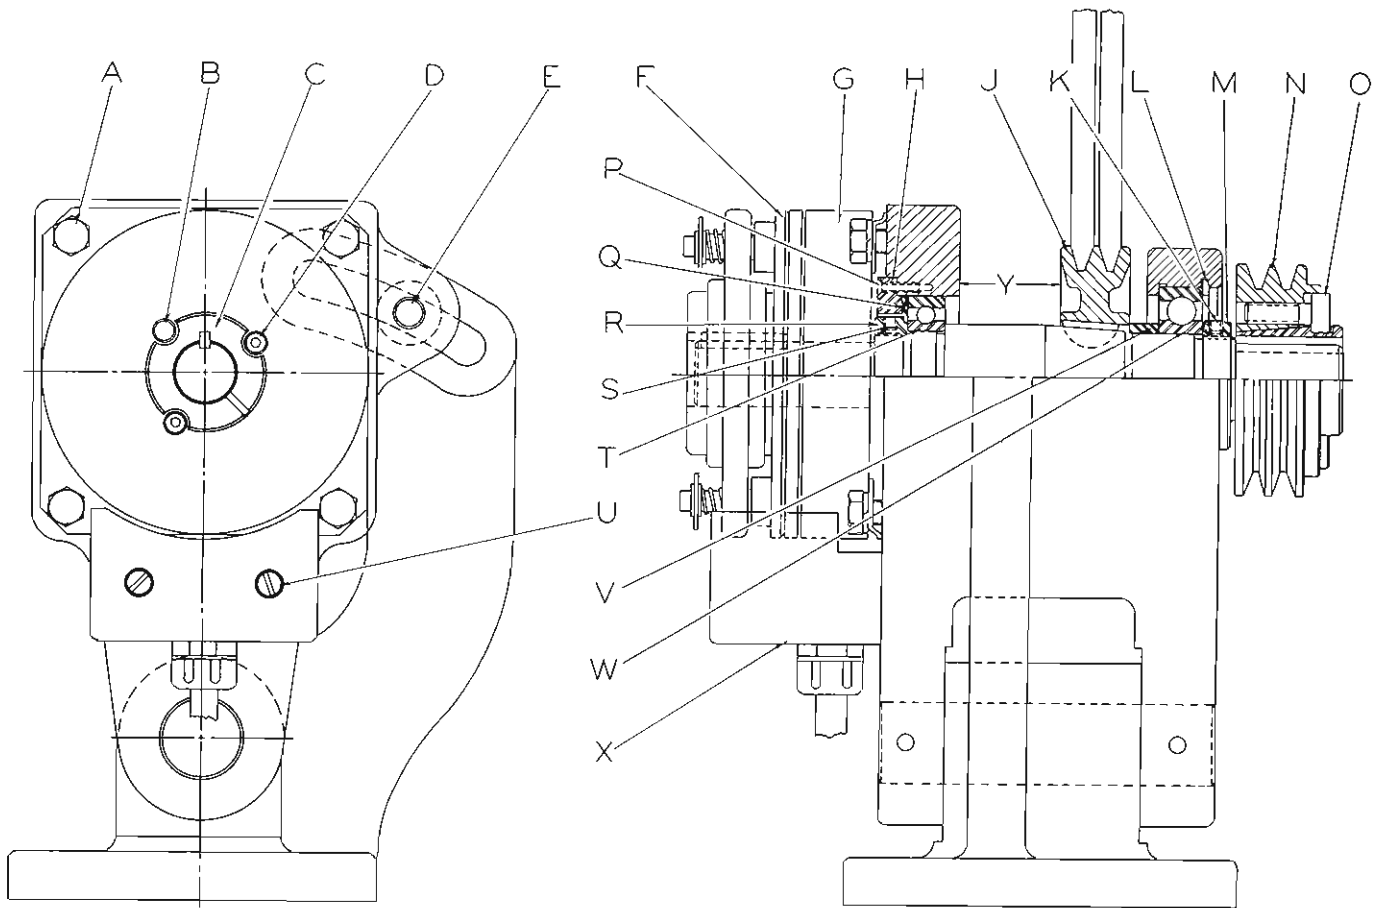

Figure 9.7 - Spindle Driving Unit
2. Loosen bolt "E", Figure 9.7, swing countershaft toward motor. Loosen lock bolts at front sides of motor plate and raise motor mounting plate to limit, using adjusting screw at center front.
16. Replace pulley "J", Figure 9.7, on countershaft. Slip belts over pulley and replace spacer "V".